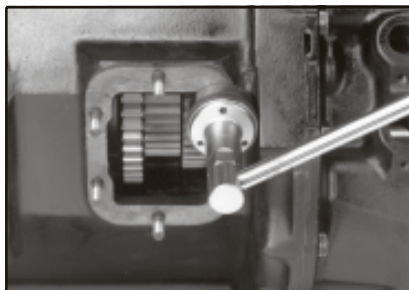

Fig. 4
4. Tighten the studs securely and then torque them to 17 - 19 ft. lbs. (2.35 - 2.63 kg. meters) for the 6 bolt, and 19 - 21 Lbs. ft. (2.63 kg. meters) for the 8 bolt. (See Fig. 4.)